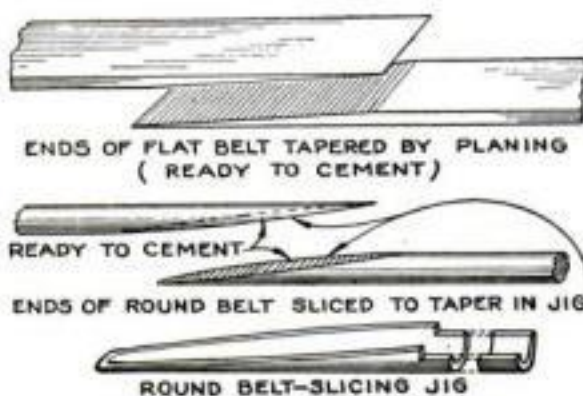

Fig. 3. Belts with properly tapered ends, and a brass jig used for slicing round belts.
Fig. 3. Assembled views of the chair showing the arrangement of the seat and back. The cushions may be made from an old mattress or from upholsterers' spring units, if desired.
**R**OUND belts cannot be planed in the same manner. Instead of coming to a true taper, the thin end will flatten out into a wide flap that cannot be cemented without producing a large lump on the belt. Round belts should be sliced with a sharp penknife to the proper taper in a special slicing jig, as shown in Fig. 2. The jig (see Fig. 3) is made from a piece of brass tubing having an inside diameter equal to the diameter of the belt. Ordinary 5/16-in. brass tubing has an inside diameter of 1/4 in. and therefore is suitable for a slicing jig for 1/4-in. round belts.